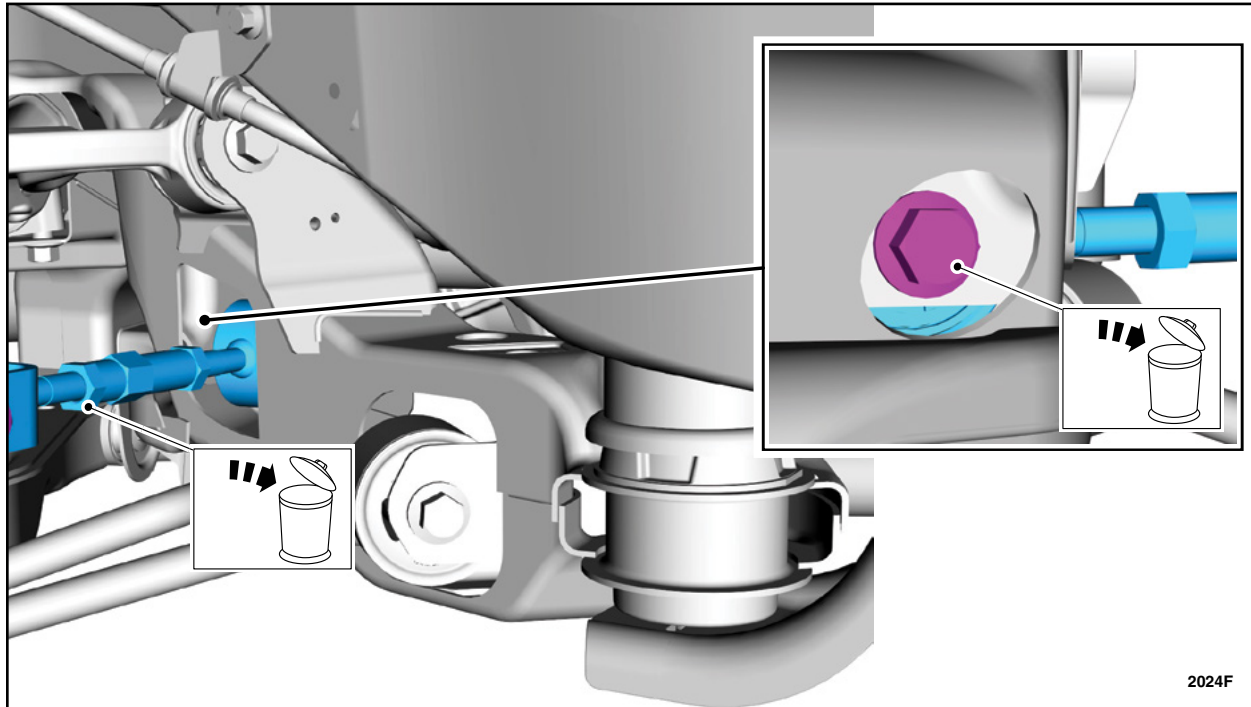

FIGURE 9
14. Remove and discard the toe link to subframe bolt and the toe link. See Figure 9.